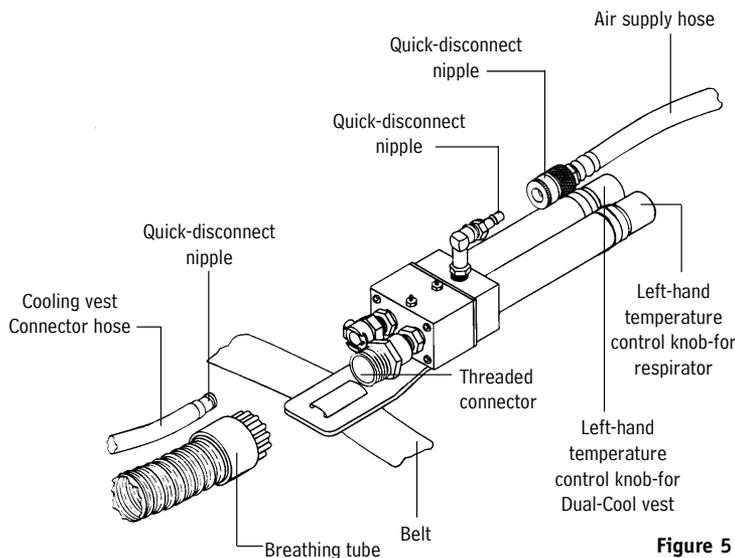

Figure 5
3. Lace the belt through the slots in the belt bracket (Figure 5).
4. Place left hand around the belt bracket, and right hand around the Dual-Cool tube. Squeeze the quick-disconnect lever with your right thumb and pull the bracket and shaft away with your left hand (Figure 5).
5. Unscrew and remove the plastic ring nut from the shaft (Figure 5).
6. Screw the breathing tube onto the threaded connector on the Dual-Cool (Figure 5).
3. Snap the quick-disconnect nipple found on the end of the cooling vest connector hose into the quick-disconnect coupler on the Dual-Cool (Figure 5).
1. To obtain cooler air, turn the air temperature control knobs counterclockwise (Figure 5). Maximum cooling is obtained when knobs are open completely and when there is maximum airflow out of the Dual-Cool tube's exhaust ports. To obtain air that is closer to ambient temperature, turn air temperature control knobs clockwise. If knobs are closed completely, your respirator will receive air that is essentially at ambient temperature.
There are separate controls to adjust the temperature of the air that is distributed to the vest and the breathing zone. The right-hand knob controls the air temperature to the respirator; the left-hand knob controls the air temperature to the cooling vest (Figure 5).